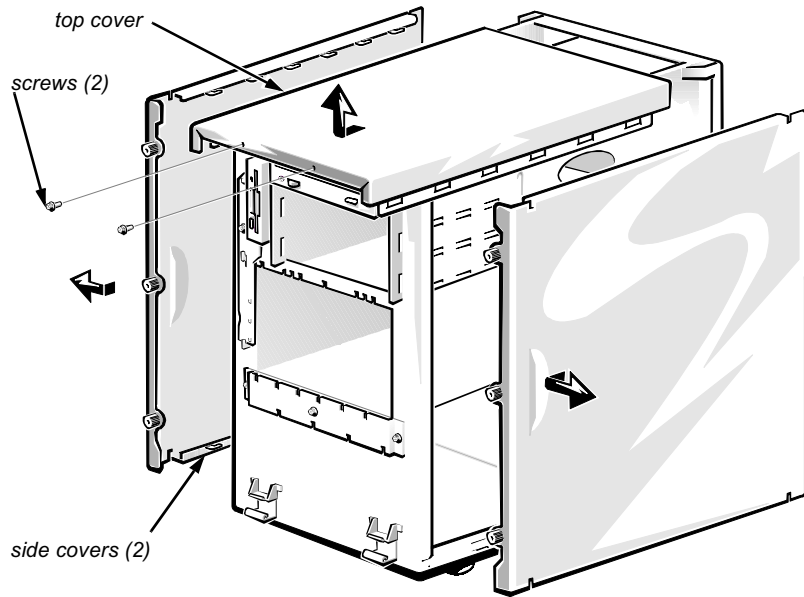

Figure 8. Removing the Computer's Top Cover
- a. Remove the two screws at the front edge of the top cover (see Figure 8). (Retain the screws for later use.)